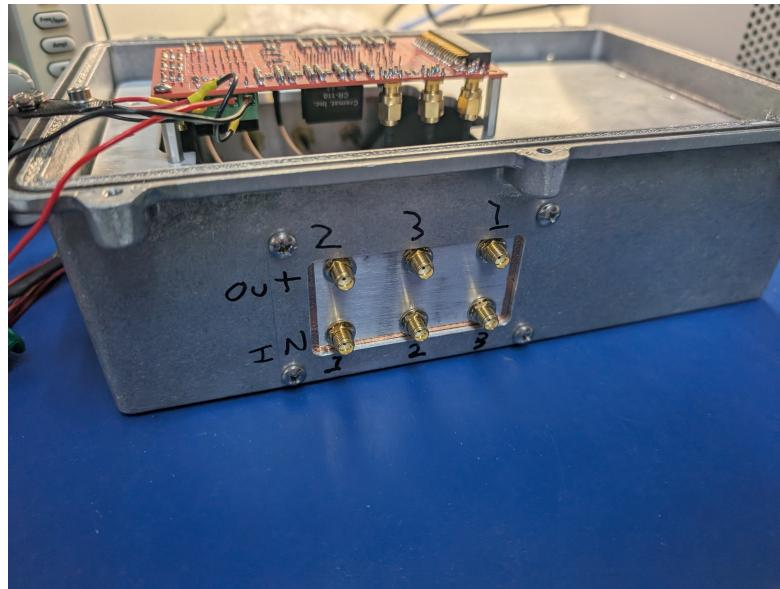

Figure 5: Input and Output Side View of enclosure
The SMA connectors supply test signals on the exterior of the enclosure as seen in Figure 5.
The SMA connectors read out the output signals on the exterior of the enclosure as seen in Figure 5.
2. Connect an SMA connector from the output of a function generator to the input of the channel desired to be tested. The input channels are the bottom row of SMA connections on the side of the enclosure, as pictured in Figure 5.
5. Connect an SMA connector from an oscilloscope to the output of the channel being tested. The test point connections can be found on the side of the enclosure, as seen in Figure 5. At the same scaling